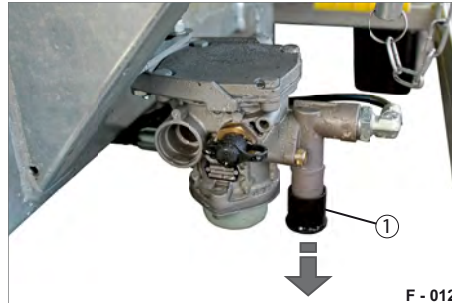

Fig. 15 Service brake in drive position
- ▶ Pull the release valve (Fig. 15/1).